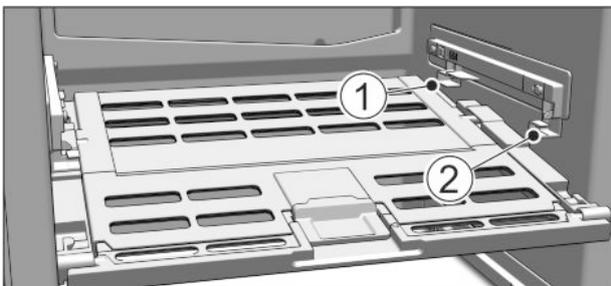

Fig. 10
- ▶ Replacing the Fruit & Vegetable safe cover: Guide the ridges on the cover into the rear brackets *Fig. 10 (1)* and click it into the front bracket *Fig. 10 (2)*.